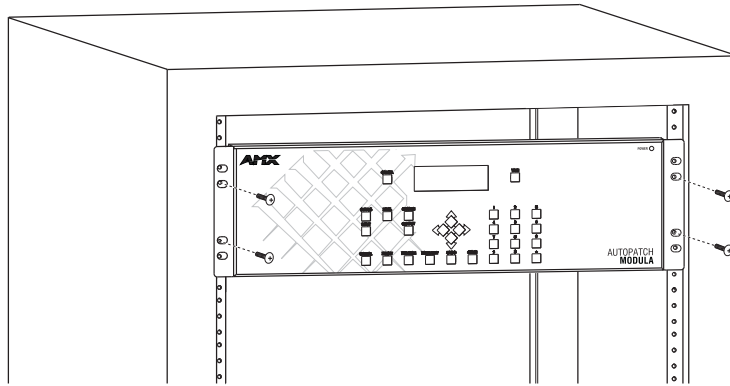

FIG. 8 Place in rack and fasten with mounting screws
2. Attach with front-mounting screws to hold it firmly in place (FIG. 8).